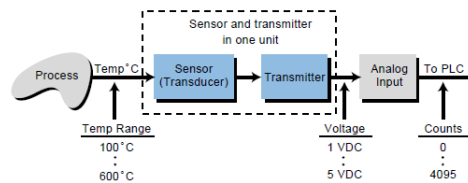

Figure 9.12 An A/D and an analog input module connected to a temperature sensing device.
- An input module, which is connected to a temperature transducer, has an A/D with a 12-bit resolution (see Figure 9.12). When the temperature transducer receives a valid signal from the process (100 to 600°C), it provides, via a transmitter, a +1 to +5 VDC signal compatible with the analog input module.